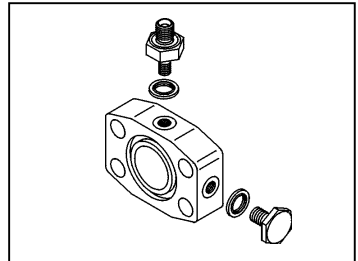

Figure 3
3. Fit the 1/8" BSP - 1/4" BSP Adaptor and Dowty seal to one of the two 1/8" BSP ports on the flange. Fit the blanking plug with Dowty seal to the remaining 1/8" BSP port (fig. 3).